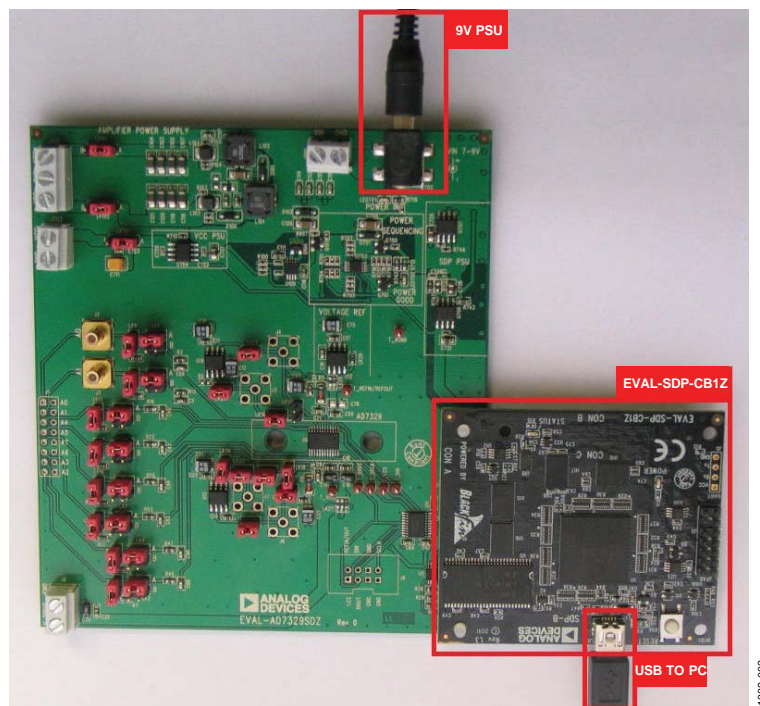

Figure 2. Hardware Configuration—Setting Up the EVAL-AD7329SDZ
3. Connect the EVAL-SDP-CB1Z board to the EVAL-AD7329SDZ board as shown in Figure 2. Screw the two boards together using the nylon screw-nut set included in the evaluation board kit to ensure that the boards are connected firmly together.
The AD7329 evaluation board connects to the EVAL-SDP-CB1Z system demonstration board. The EVAL-SDP-CB1Z board is the controller board, which is the communication link between the PC and the main evaluation board. Figure 2 shows a photograph of the connections made between the AD7329 daughter board and the EVAL-SDP-CB1Z board.
1. Connect the EVAL-AD7329SDZ board to Connector A or Connector B of the EVAL-SDP-CB1Z board (see Figure 2).